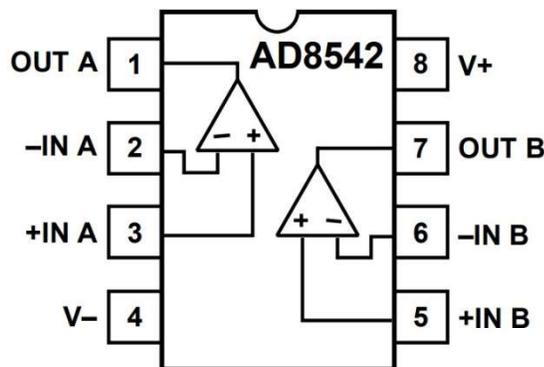

Figure C-2. AD8542 Chip Layout
- The physical layout of the chip is shown in Figure C-2 below. Identify the pin numbers 1 to 8 on the AD8542 board by finding pin 1 and counting clock-wise all the way to pin 8. Pin 1 and 8 are marked on the board as shown above.
- Connect **CH A** (function generator) from M1K to positive input pin 3 of the chip (labelled in Figure C-2).